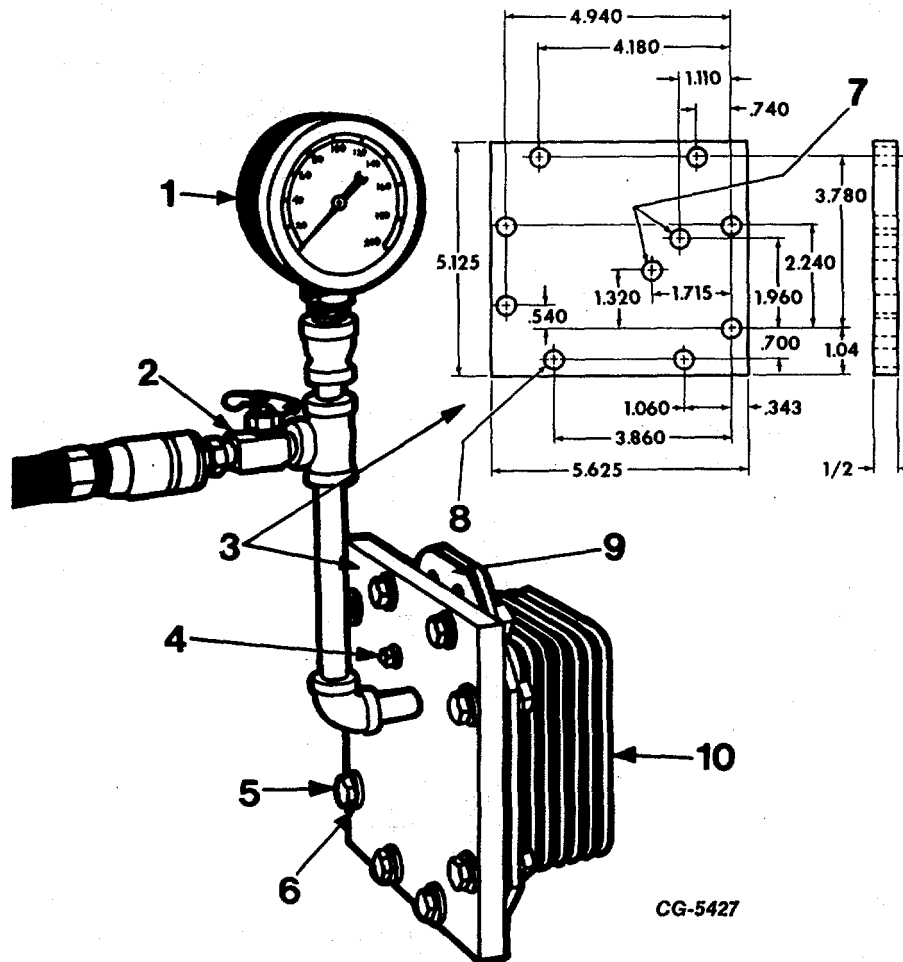

Fig. 134. Pressure Testing Engine Oil Cooler Core Assembly
1. Attach test plate and gasket to core assembly mounting face flange (Figure 134). The test plate must be made locally according to the dimensions in the insert in Figure 134. Obtain engine oil cooler housing gasket from service parts stock.
2. Install pressure gauge, air control valve and quick connect air coupler to test plate (Figure 134). Apply 80 to 100 lbs. of air pressure to the core assembly.